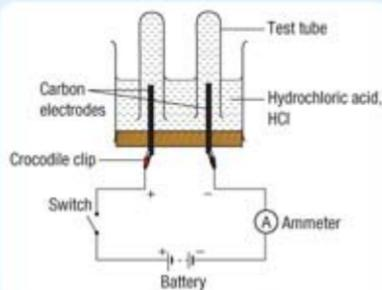

Figure 6.10
- Fill completely two test tubes with  $1.0 \text{ mol dm}^{-3}$  hydrochloric acid, HCl, and invert both test tubes in the electrolytic cell (Figure 6.10).